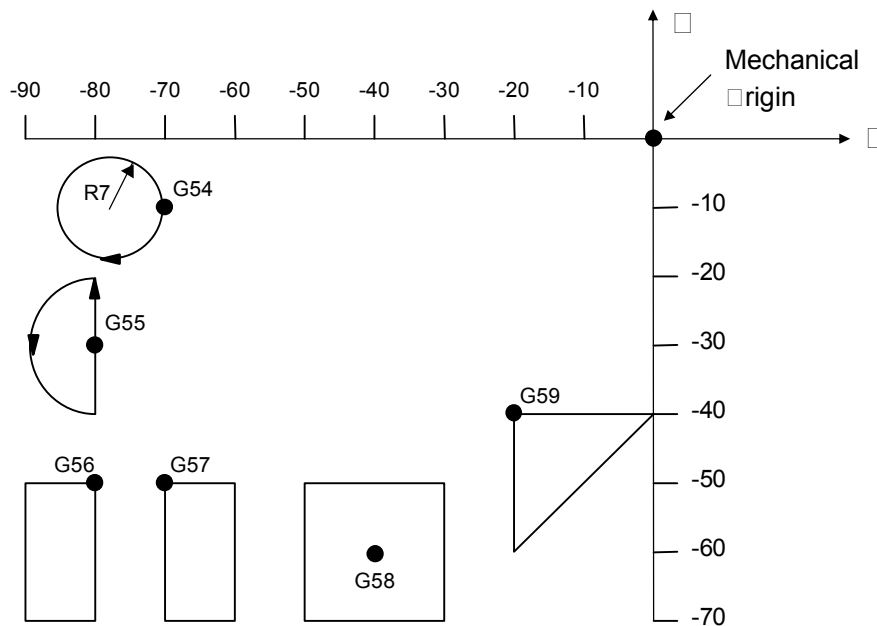

Fig. 3-84 G54-G59 application
2. When a Work Coordinate System is selected, program coordinates also change accordingly. The altered coordinates are based on the Work Coordinate System. Adding circular and semi-circular cuttings in program of the above figure, the application of G54 and G55 can be described by the following example. (Fig.3-84)